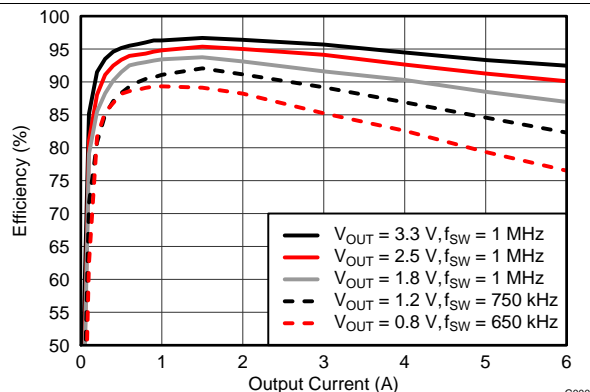
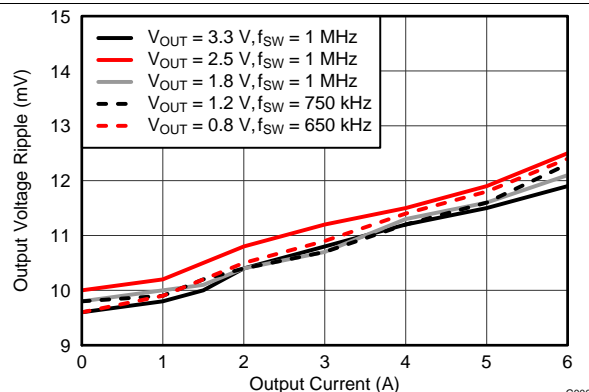
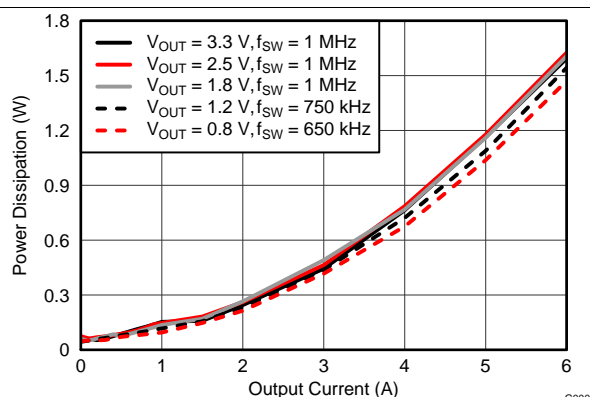

Figure 1. Efficiency vs. Output Current
Figure 2. Voltage Ripple vs. Output Current
Figure 3. Power Dissipation vs. Output Current
- (8) The electrical characteristic data has been developed from actual products tested at 25°C. This data is considered typical for the converter. Applies to Figure 1, Figure 2, and Figure 3.